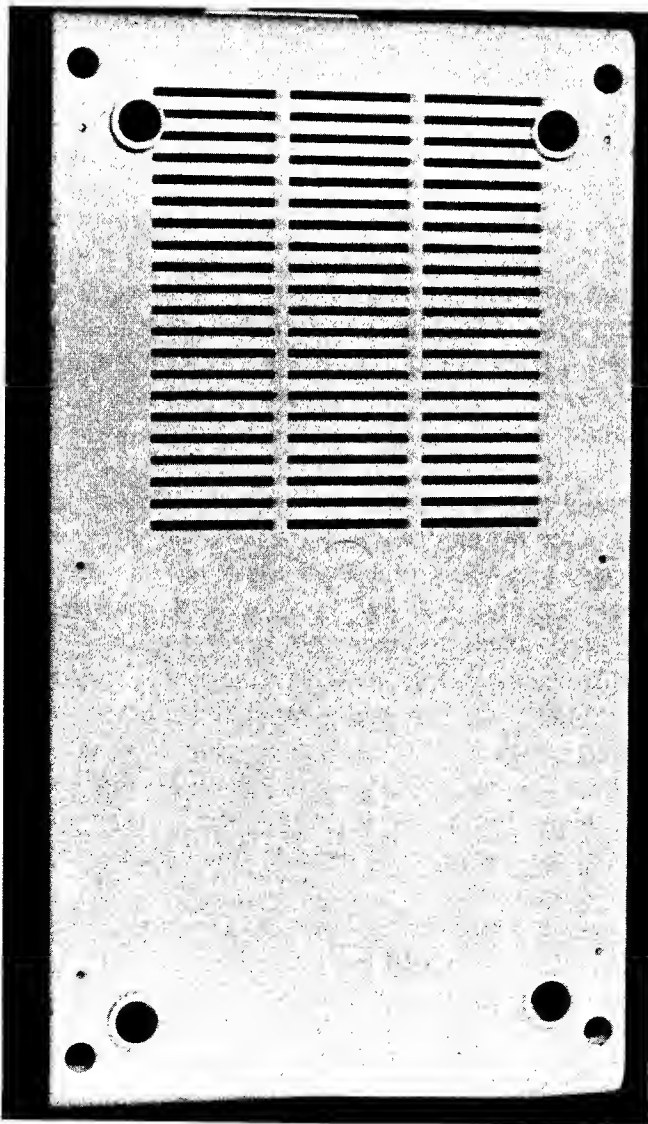

Fig. 5-15. Remove the four Phillips-head screws.
6. Remove the four Phillips-head screws as shown in Fig. 5-15.